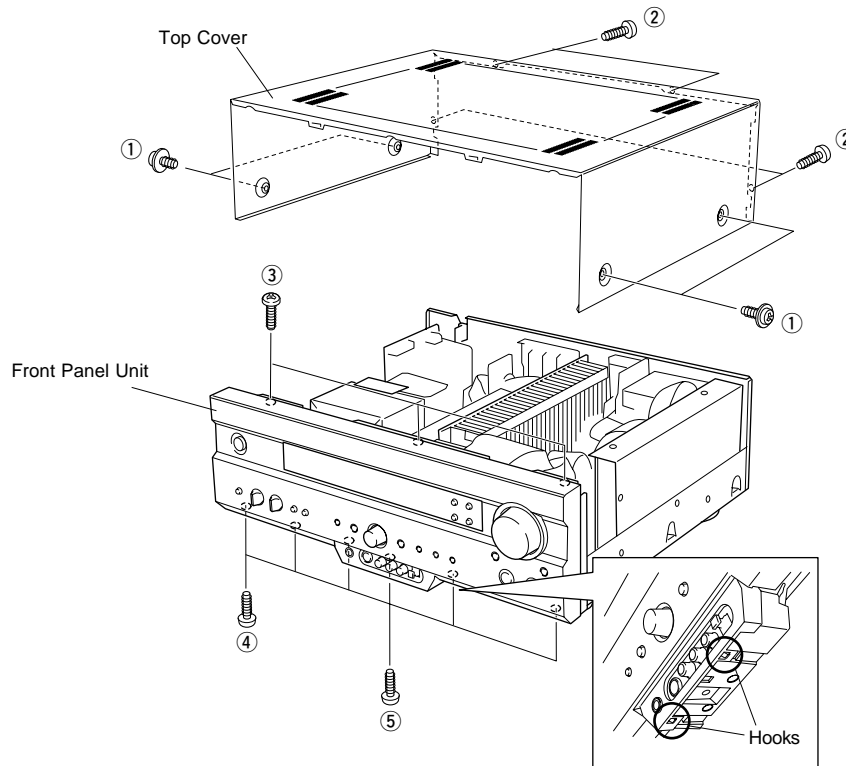

Fig. 1
- ⑬ POWER (2) P.C.B.
- ⑭ POWER (6) P.C.B. (R, T only)
- ⑮ MAIN (4) P.C.B.
- ⑯ MAIN (1) P.C.B.
- ⑰ POWER (3) P.C.B.
- ⑱ MAIN (2) P.C.B.
- ⑲ INPUT (1) P.C.B.
- ⑳ INPUT (2) P.C.B.
Remove 8 screws (① and ②) and then remove the Top Cover in Fig. 1.
- Remove 9 screws (③, ④ and ⑤) in Fig. 1.
- Lift 2 hooks and then remove the Front Panel Unit in Fig. 1.